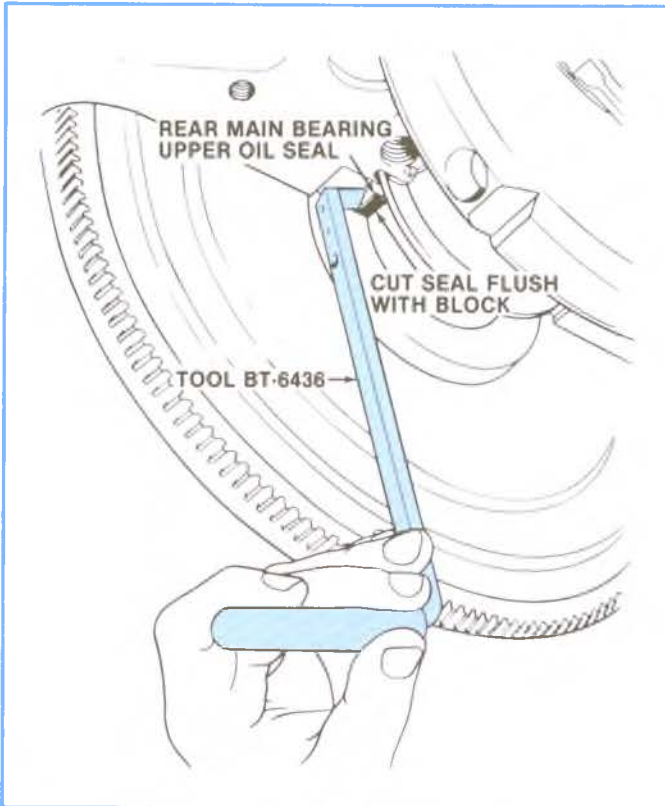

Figure 2-24, Cutting Seal In-Vehicle.
6. Work these two pieces of seal into the cylinder block (one piece on each side) with two small screwdrivers. Using Packing Tool, pack these short pieces up into the block. Use Seal Trimming Tool BT-6436 or sharp blade to trim seal flush with block as shown in Figure 2-24.